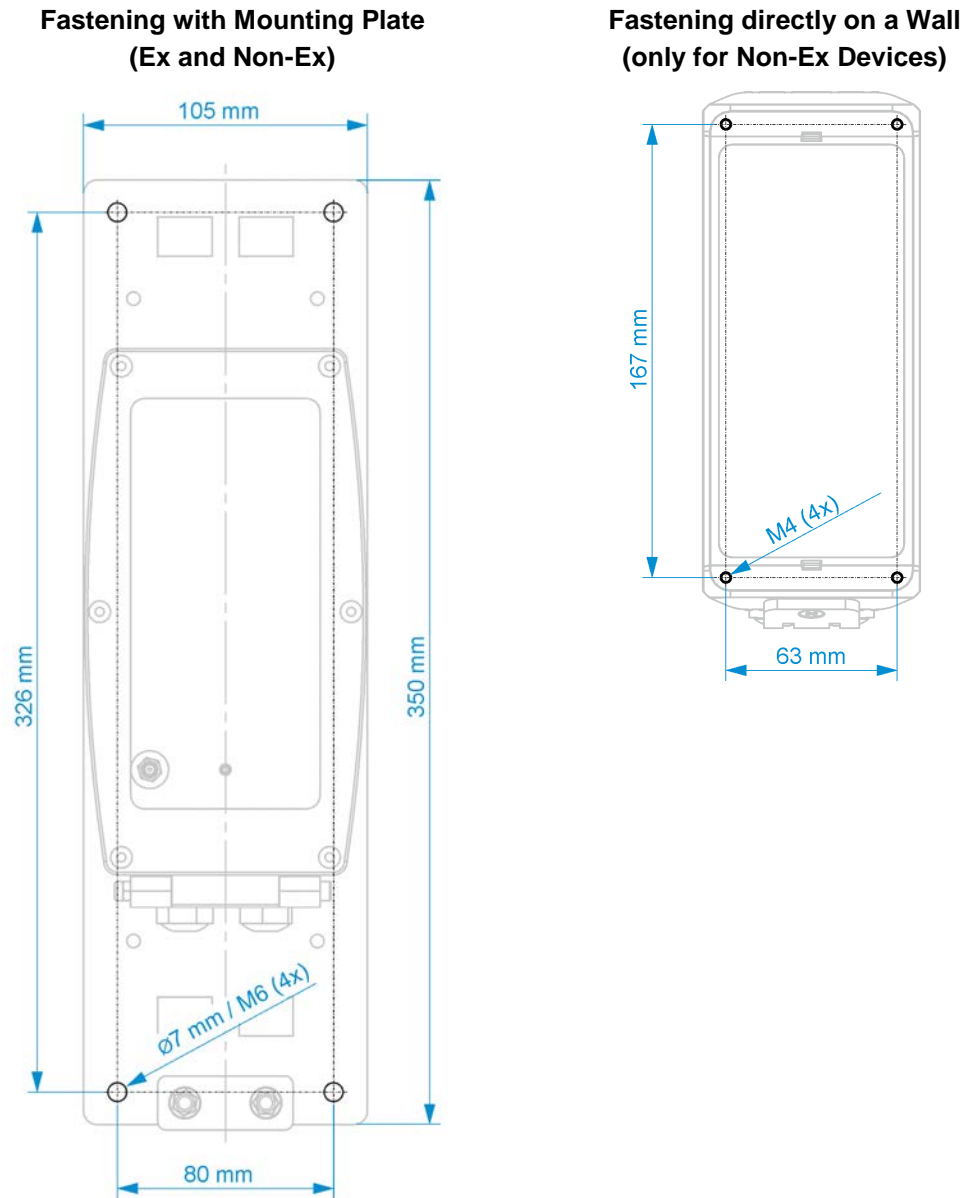

Fig. 24-1 Fastening drilling patterns
- Enclosure rear panel mounted on a mounting plate (3 mm thick); mounting plate screwed to a flat surface (wall or similar) (drilling pattern see Fig. 24-1 Pos. 1)
- Directly screwed to a flat surface (wall or similar) with the rear panel of the enclosure (drilling pattern see Fig. 24-1 Pos. 2) (only for non-Ex devices)
3. For wall mounting, transfer the respective drilling pattern (see Fig. 24-1) to the wall and drill the holes.